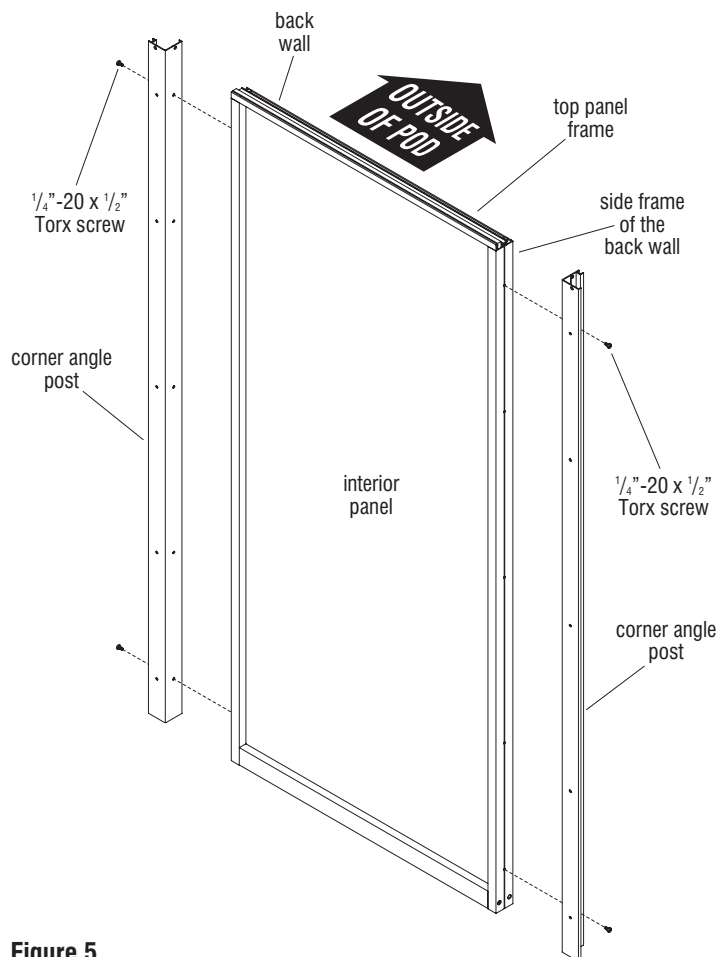

Figure 5
2. Have one person hold the back wall upright (Figure 5).
3. Position a corner angle post, onto the side frame of the back wall as illustrated in Figure 5. Using a T-30 bit and cordless power drill, loosely secure the angle post to the wall at the top and bottom mounting holes, using two 1/4"-20 x 1/2" Torx screws. Repeat this process to loosely secure the second corner angle post to the opposite side of the back wall frame (Figure 5 & Detail D).